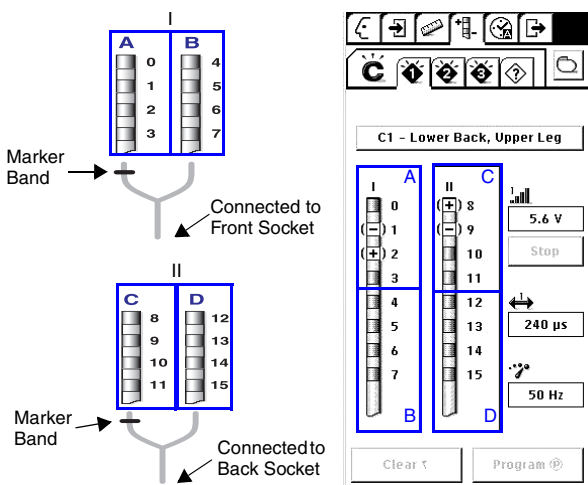

Figure 1.
4. For Lead 0-7 on the programmer screen, which are also the implanted leads connected to the front socket (Figure 1 A, B), program electrodes 0-3 for the lead electrodes connected to the marker band leg of the extension (A) and program electrodes 4-7 for the lead electrodes connected to the non-marker band leg of the extension (B).
Refer to Figure 1 for matching the electrodes of the implanted leads with the electrodes of the lead on the programmer screen.
5. For Lead 8-15 on the programmer screen, which are also the implanted leads connected to the back socket (Figure 1 C, D), program electrodes 8-11 for the lead electrodes connected to the marker band leg of the extension (C) and program electrodes 12-15 for the lead electrodes connected to the non-marker band leg of the extension (D).